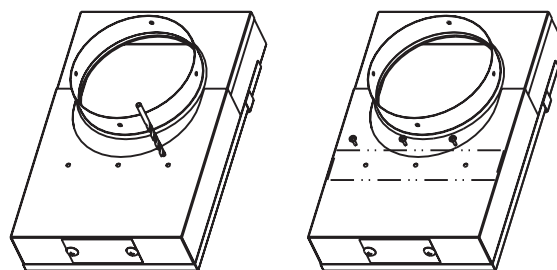

Figure 40.4
3. Adjust the offset adapter to desired distance. Drill holes through the lower chamber as shown in **Figure 40.4** using the small drill bit #26 provided.